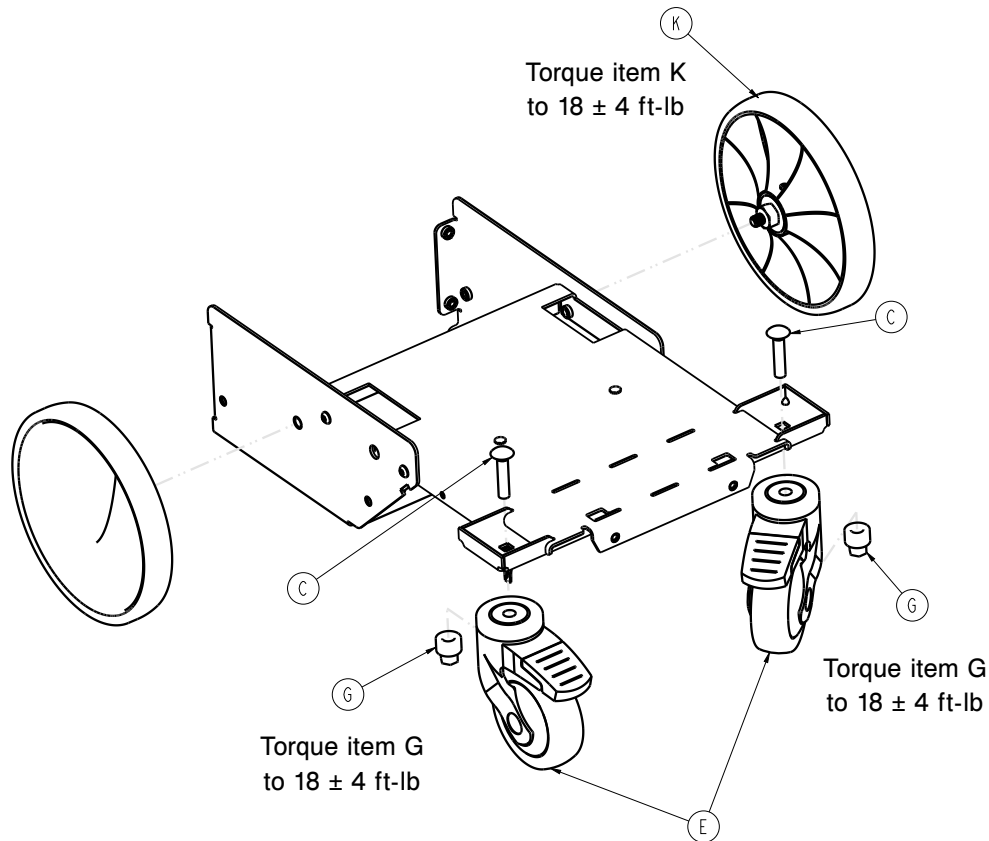

Figure 12 – Rear swivel lock casters
3. Using a 9/16" combination wrench, loosen and remove the nut that secures the rear swivel lock caster to the frame. Remove and discard the rear swivel lock caster (Figure 12).